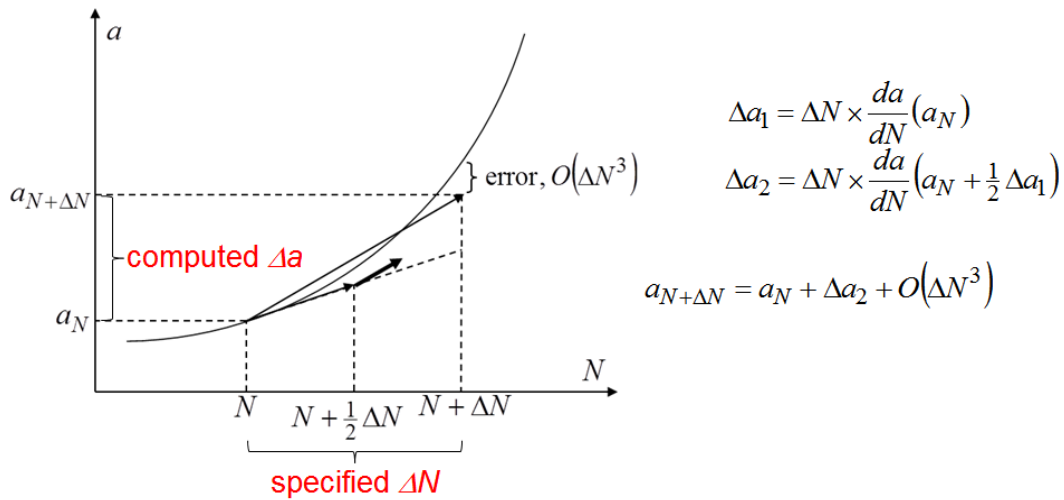

Figure 6.5.78 Second order Runge-Kutta integration.
The user can choose between Runge-Kutta (RK) and Cycle-by-cycle (CxC) integration to compute life or cycles. A 2nd order RK approach is implemented, Fig 6.5.78.